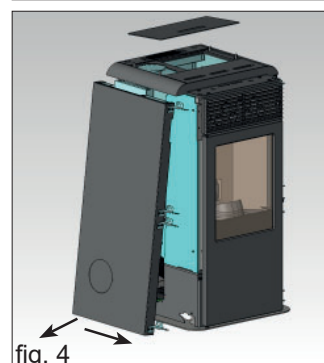

fig. 4
- Remove the metallic left side), moving it about 2 cm towards the front of the stove, extracting it first from below and then pulling it out from under the top (fig. 4).